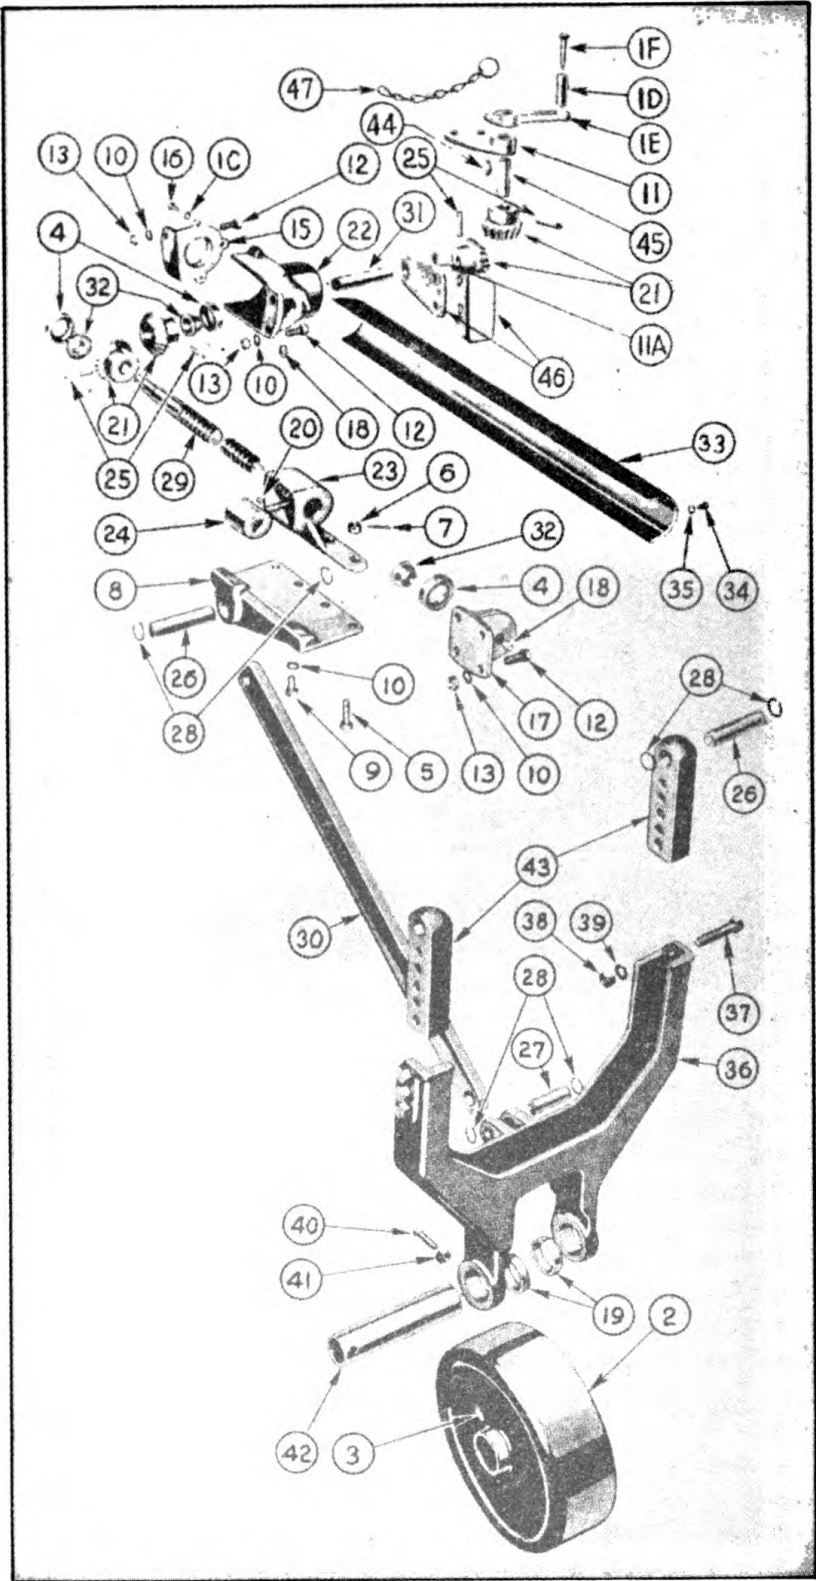

FIGURE 60. CONVERTER GEAR SUPPORT—EXPLODED
2. **REMOVING SUPPORT LEGS** (Figure 60).—Remove the pin in connecting rod (30) at the support leg (36). Remove pins at the frame support bracket (26). This will permit removal of the support leg. Severely bent support legs should be replaced. When slightly bent, heat and straighten.
3. **REMOVING SUPPORT WHEEL AND AXLE.**—*a.* The support wheel (2) can be easily removed by removing the two bolts holding the axle (42) to support leg (36). Damaged wheels should be replaced.
b. Remove the axle (42) as you remove the wheel.
4. **REPLACING ADJUSTING BAR.**—The adjusting bars (43) are held to the leg by three bolts and a 1" pin (26) in frame support bracket. Remove these and drive the adjusting bar down and out. Replace
f. Remove the two bolts (Figure 60) holding bracket (46) and operating assembly (11 and 45) to frame.
g. Drive out pin (25) from shaft (31).
h. Loosen the two bolts in bracket (46) and pull complete assembly off I-beam.
i. Remove the three cap screws (16) from bearing cap (15) and pull riser screw (29) out of gear housing (22).
6. REASSEMBLY.—*a.* When re-assembling, reverse the above procedure. Be sure that the nut dowel (20) is in the dowel pin hole in the gear housing and the brass riser screw nut (24) is over the dowel pin.